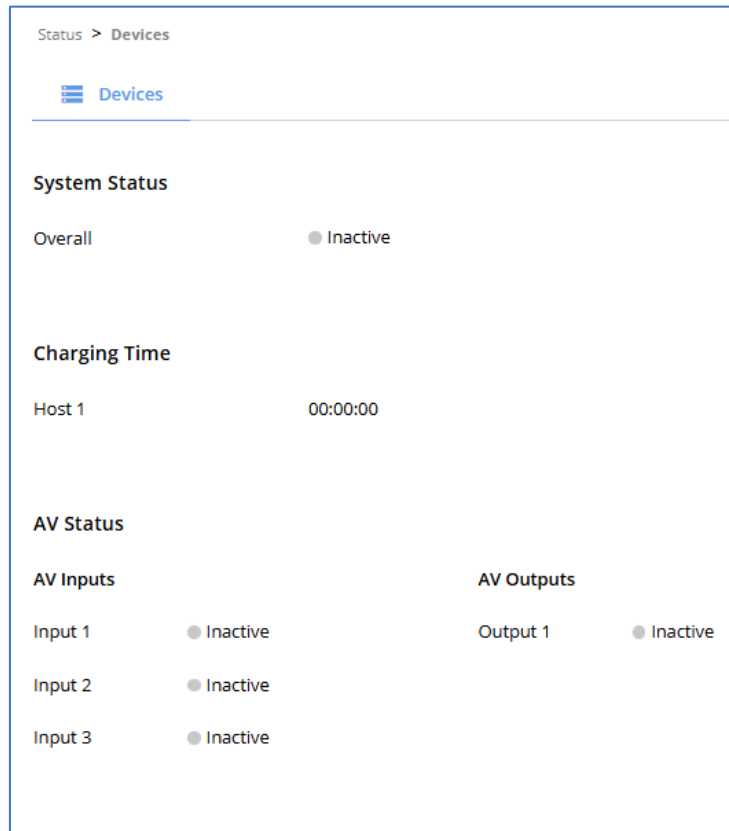

Figure 47: Device Status Page
4. If needed, select modulation method by pressing **M** on Rx IR 1 cell (see \(Figure 47\)).